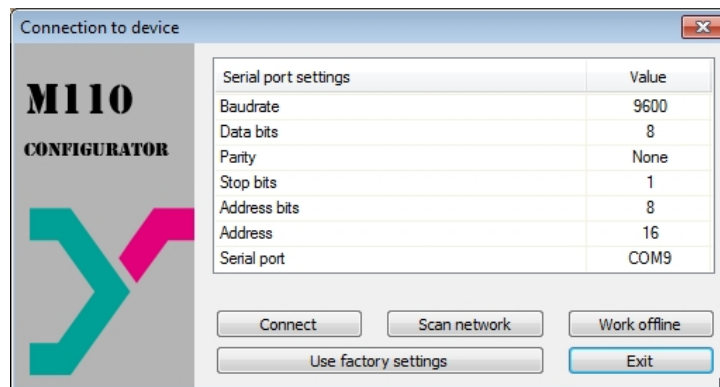

Fig. 8.1 'Connection to device' dialog box
- Click the 'Use factory settings' key or enter the values from the Table 8.1 in the 'Connection to device' dialog box (see Fig. 8.1).